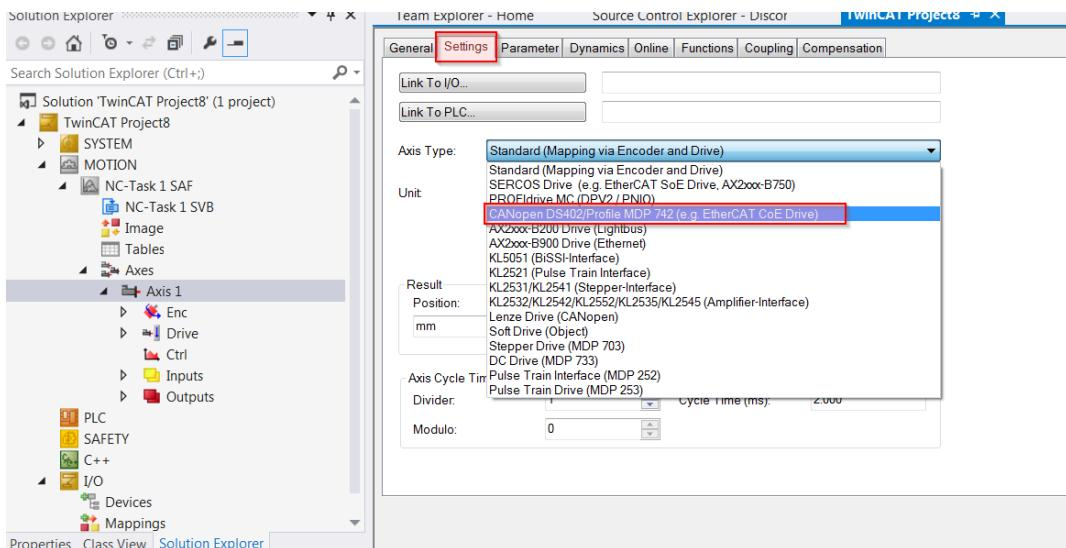

Figure 49: TwinCAT 3 CiA402 axis setup
- TwinCAT 3** : Open the context menu of the MOTION TreeItem -> “Add New Item” -> Type “NC/PTP NCI Configuration” -> Open the context menu of the new created “Axes” TreeItem -> “Add New Item” -> Type “Continuous Axis” -> set Axis type to “CANopen DS402” (see Figure 49: TwinCAT 3 CiA402 axis setup).